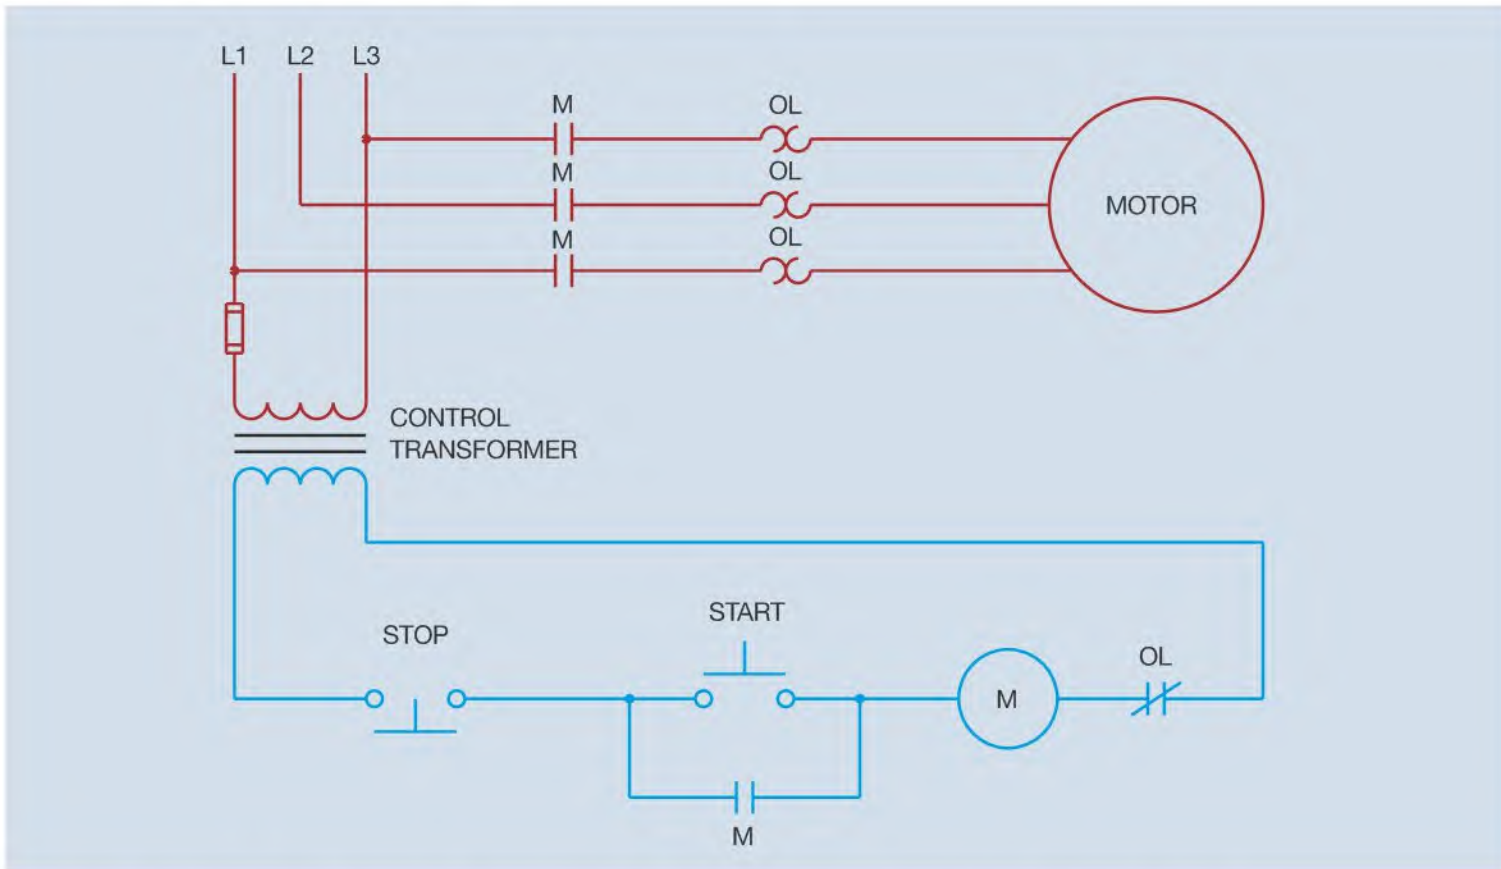

Figure 7-4 Pressing the STOP button de-energizes the coil and all M contacts return to their normal position.
- When the STOP button is pressed, current flow to the coil is interrupted and all M contacts return to their original position, (Figure 7-4).